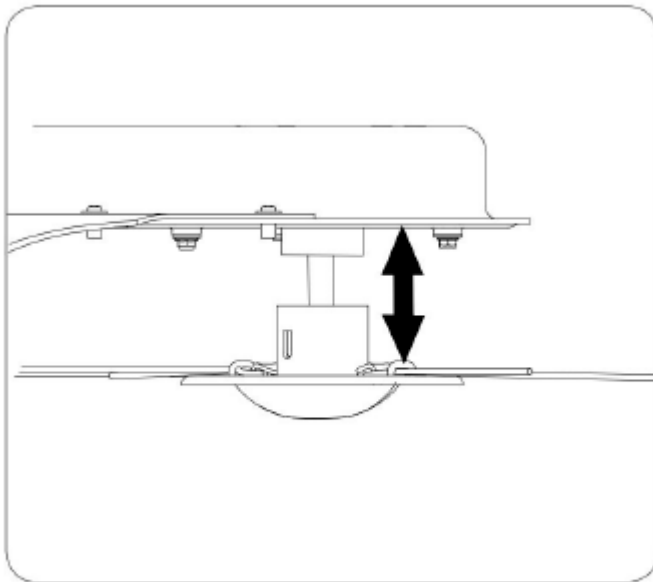

Figure 5-1
- Slide the spindle up or down to the desired position before retightening the wing nuts. See Figure 5-1.